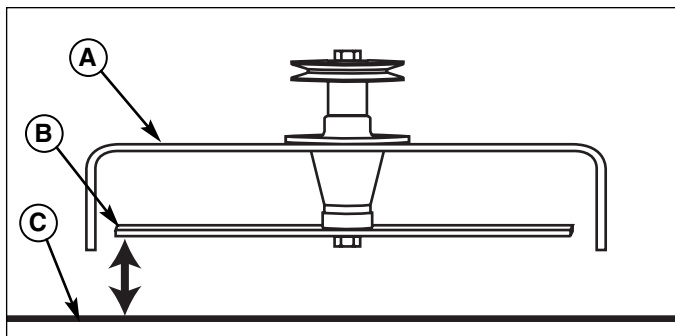

Figure 28. Measure Blade Tips to Ground
7. Measure the distance from the ground to the front tip of the center blade and from the ground to the rear tip of the rear blades (Figures 28 & 30). The front tip of the front blade should be 1/4" (6mm) higher than the rear tips of the rear blades. If not, proceed with steps 8 - 9.